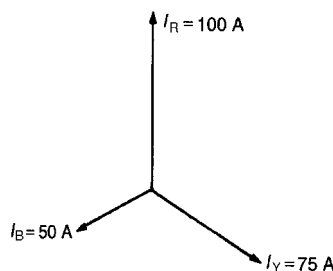

Figure 20.8
- (b) The three line currents are shown in the phasor diagram of Fig. 20.8 Since each load is resistive the currents are in phase with the phase voltages and are hence mutually displaced by 120° . The current in the neutral conductor is given by $I_N = I_R + I_Y + I_B$ phasorially.